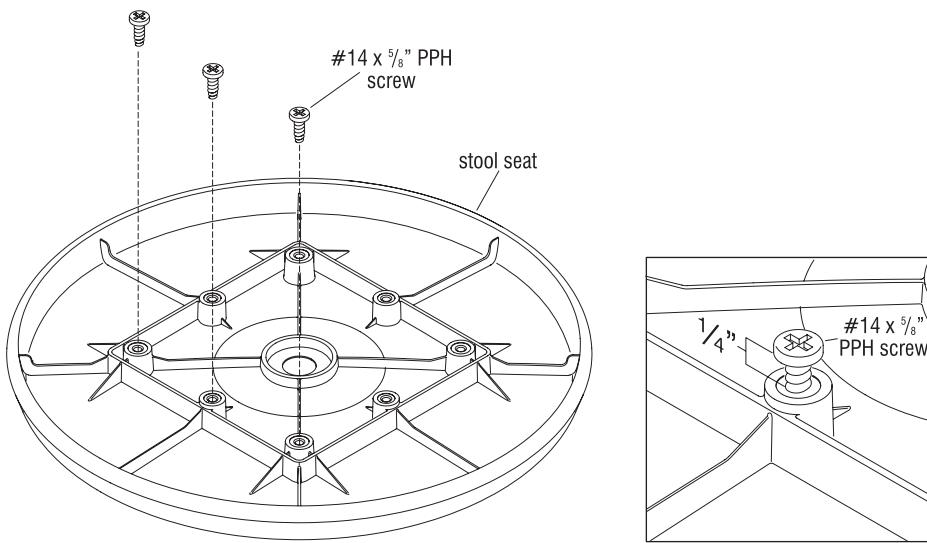

Figure 2
3. Align three screws, two in each adjoining corner, and one in between the corners as illustrated (Figure 2).